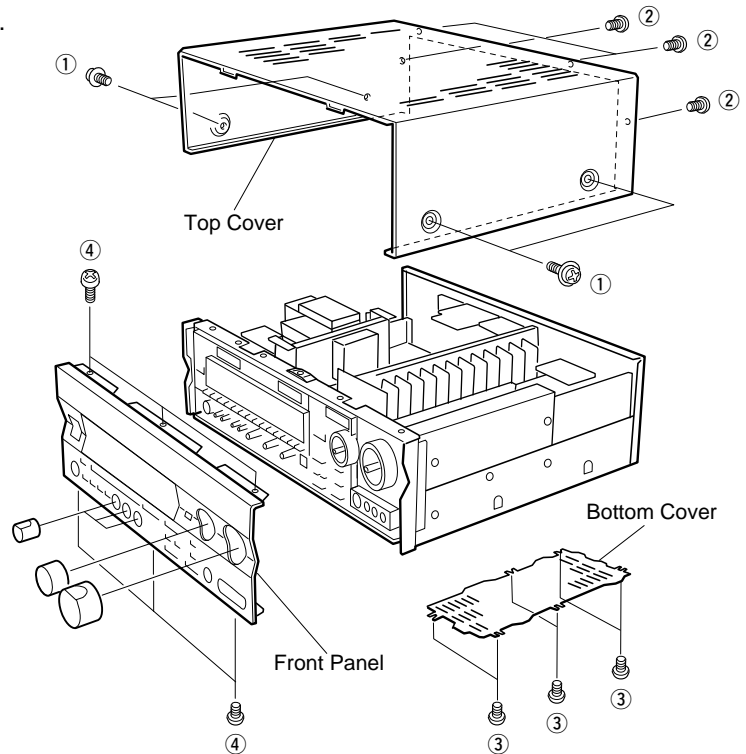

Fig. 1
- a. Remove 4 screws (①), and 4 screws (②) in Fig. 1.
- a. Remove 6 screws (③) in Fig. 1.
- b. Remove 6 screws (④) in Fig. 1.